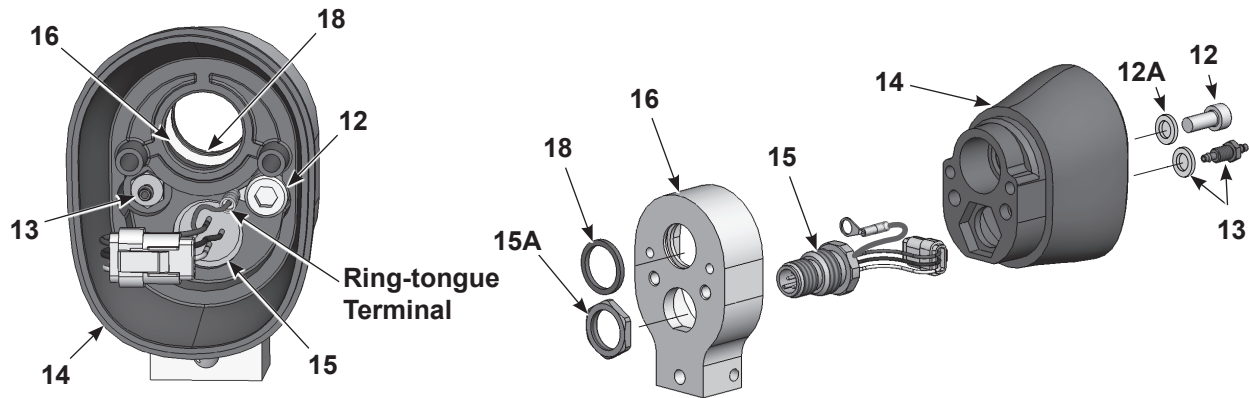

Figure 24 Bar-Mount Gun Disassembly 3 of 3
8. See Figure 24. To disassemble in the rear body assembly, remove the screw (12), lock washer (12A), and barbed fitting and lock washer (13) from inside the rear body (14). A 3-mm hex key and 1/4-in. deep-well socket are required.
9. Remove the nut (15A) from the receptacle (15), pull the adapter off the rear gun body, and feed the receptacle harness through the body.
10. Inspect the quad ring (18) in the adapter (16) and replace it if damaged.
**NOTE:** When reassembling, secure the ring-tongue ground terminal to the rear gun body with the screw (12) and torque it to 2.5 N•m (22 inch-lb).